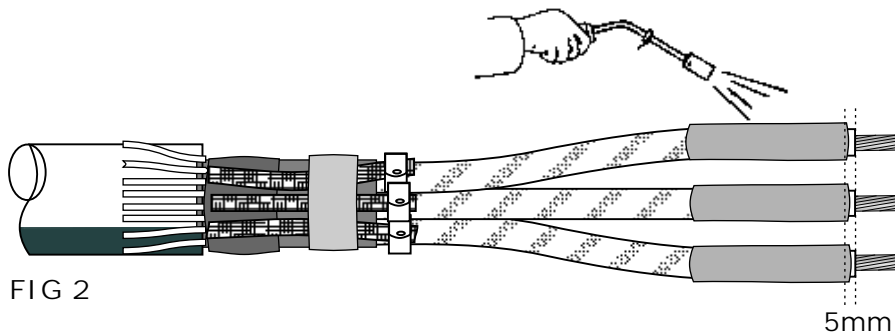

FIG 2
2. Position the Short Red Insulation Build Up Tubes and position them at a point 5mm back from the end of the Primary Insulation as shown in Fig 2. With a suitable heat source shrink the Tubes into position. Keep the flame on the move all around the Tube to ensure an even wall thickness.